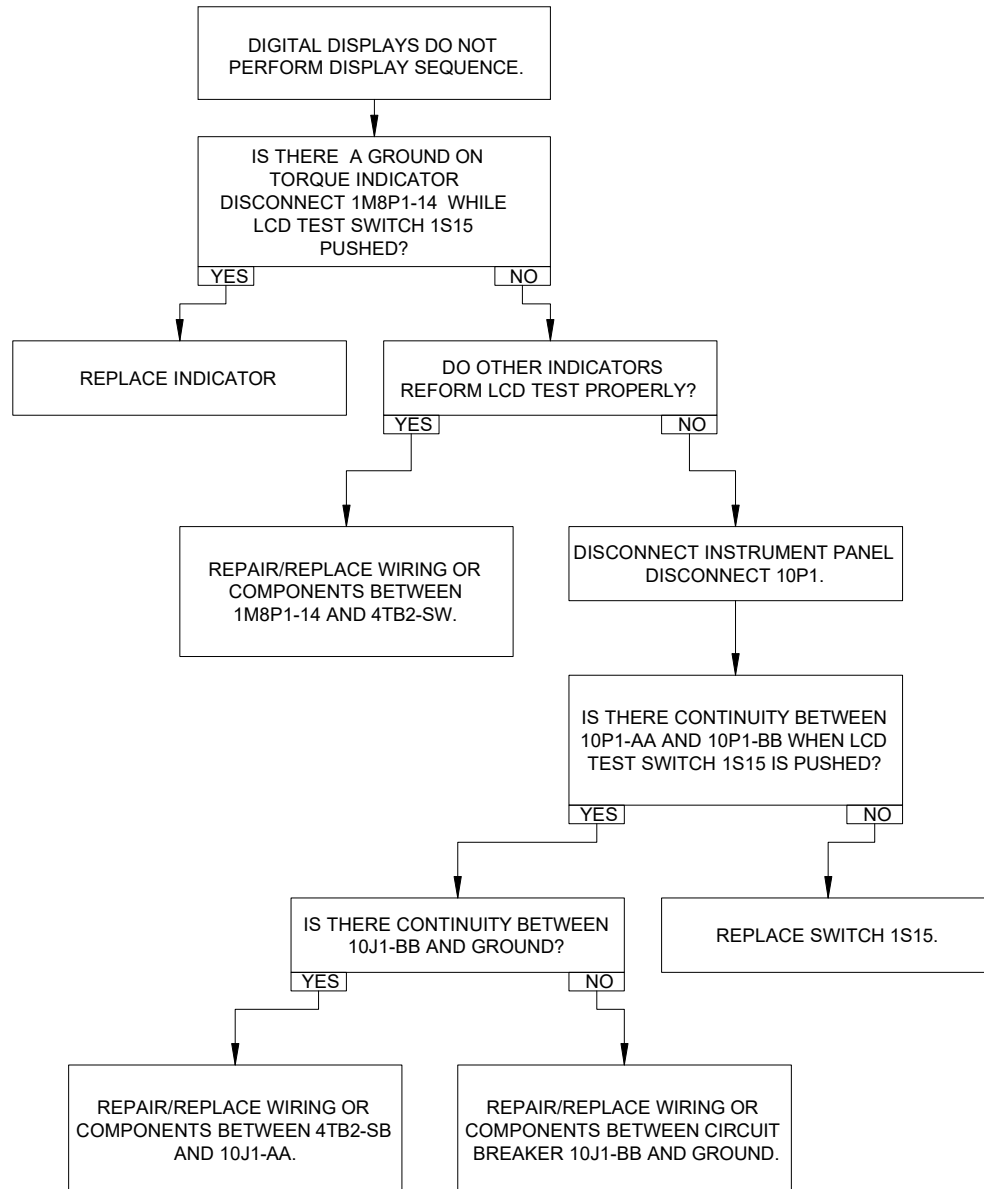

Figure 95-6: Engine Torque Indication System - Trouble No. 2
- If the digital displays do not perform the display sequence, refer to Trouble No. 2 (Figure 95-6).